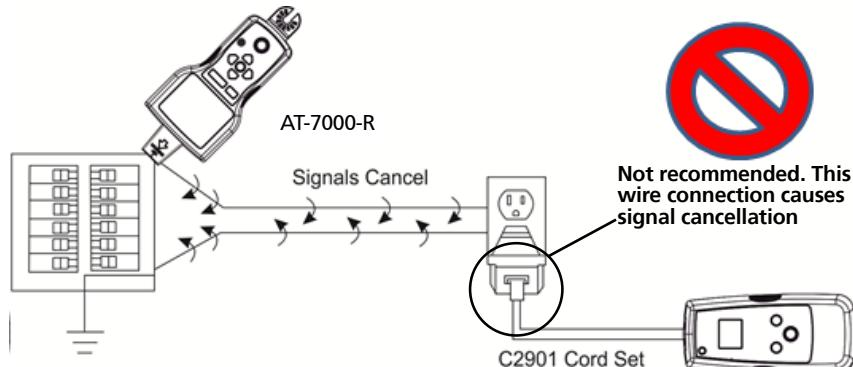

Figure 3a
2. Connect red lead to energized hot wire (on the load side of the system). The signal will ONLY be transmitted between the outlet to which the transmitter is connected and the source of power (see Figure 3a).